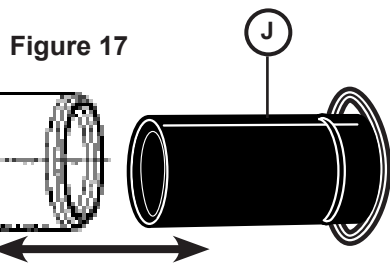

Figure 17
2. Obtain the Rubber Drain Hose Adaptor (J) spring clamp from the Dishwasher Installation Kit (**do not substitute**).
3. Insert the dishwasher drain hose into the **end of the drain hose** (see **Figure 17**). Be sure to fully insert the drain hose.